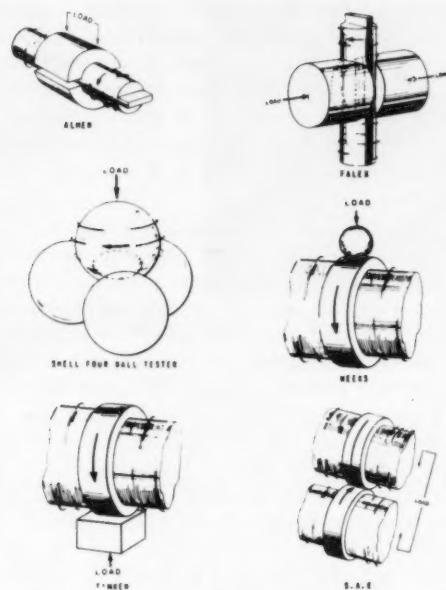

Fig. 3 Principles of operation of common types of extreme-pressure oil-testing machines
**Extreme Pressure Oils.** Another property of oil that sometimes is utilized in implement design is the matter of load-carrying capacity. The petroleum industry uses several types of test machines to measure this property. In Fig. 3 the geometry and principle of operation are shown for each of these machines. These test procedures, being accelerated, give results that can be interpreted only in terms of background experience with the particular machine and with the type of application to which the test is applied. These oils are known as extreme pressure (EP) oils and in general are classified into three types: